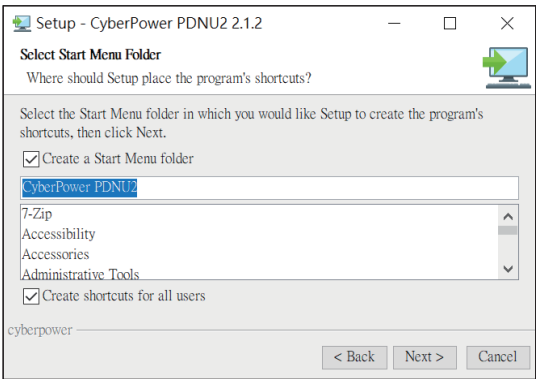

Figure 3
- Step 4. Select **Next** to confirm the settings and install (Figure 3).